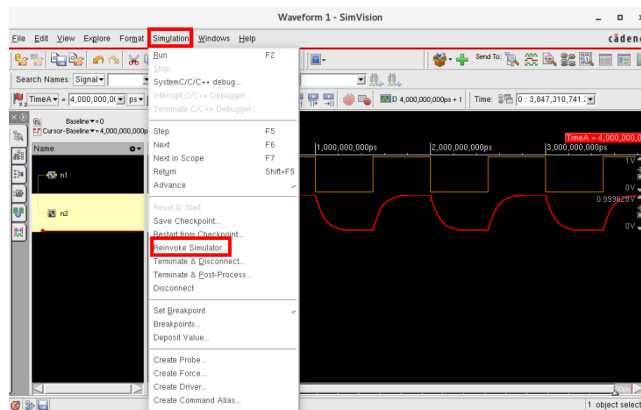

Figure 14: Reinvoke simulator
8. If you have adapted the Spice code and want to rerun the simulation, click on "simulation" and then on "Reinvoke Simulator..." as shown in Figure 14. You will get a message. Click 'Yes'. Press the play-button to start the simulation again.